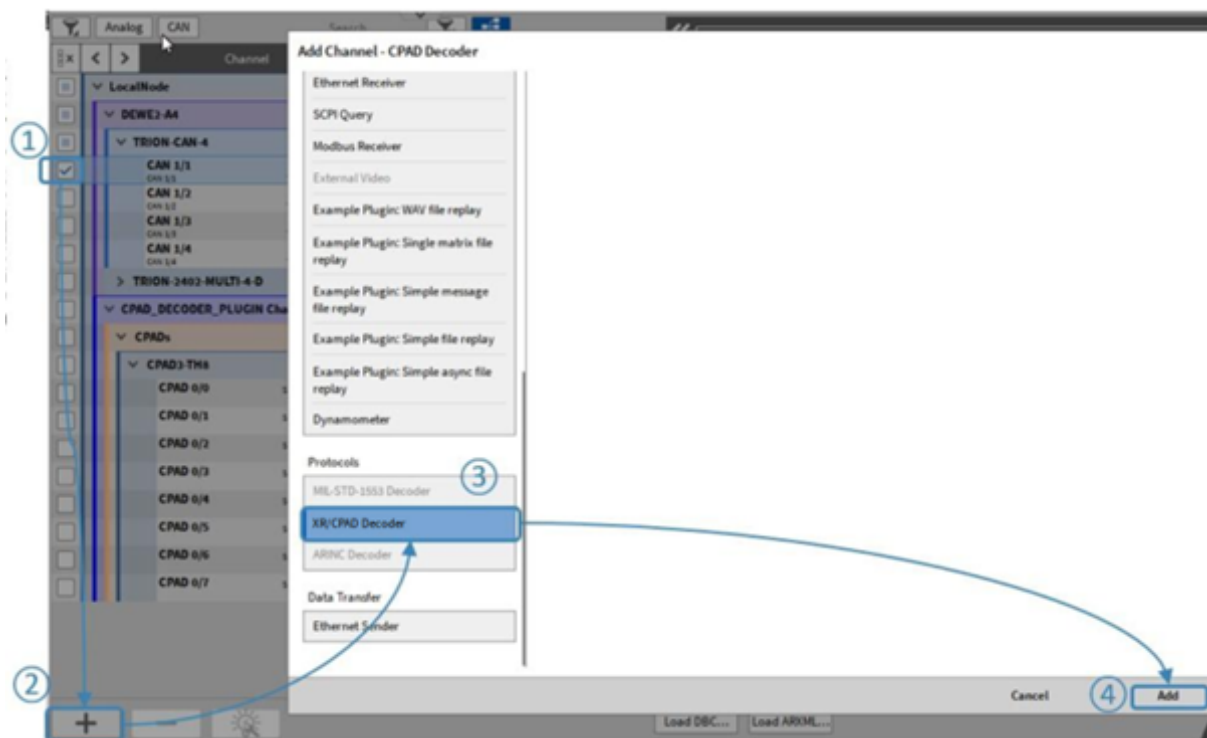

Fig. 4.33: Adding a CPAD decoder Adding a CPAD decoder (alternate approach)
Alternately, the CPAD decoder plugin can be added by the “+”-button as well. To do so, select the correct CAN-bus, press “+”, choose *CPAD Decoder* and press *Add* (see Fig. 4.33). With the option “Synchronous output channels” (4), the acquired CAN data is forced to equidistant timestamps.